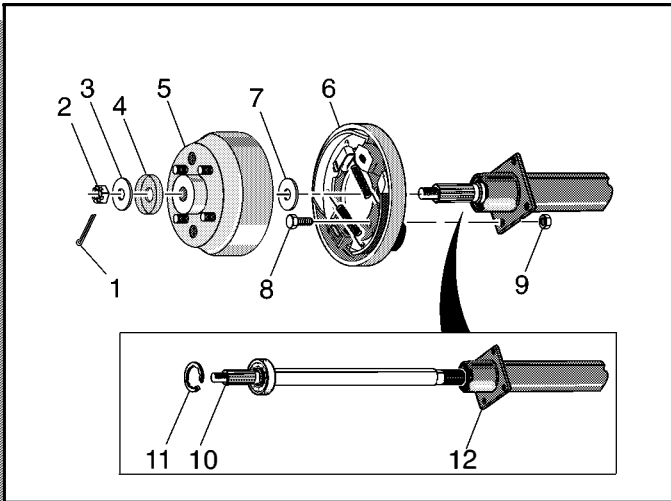

Fig. A-10 Axle Shaft Removal
10. Remove the cotter pin (1), axle nut (2) using a 1 1/8" socket, washer (3), and cup washer (if present) (4) from the driver side axle shaft (Ref Fig. A-10 on page A-5).
11. Pull the brake drum (5) from the brake assembly (6), and remove the washer (7) (Ref Fig. A-10 on page A-5).
12. Using a 1/2" socket, remove the four (4) bolts (item 8) and nuts (9), and remove the brake assembly from the driver side axle tube (Ref Fig. A-10 on page A-5).
13. Remove the driver side axle shaft (10) (Ref Fig. A-10 on page A-5).
- A. Using snap ring pliers, remove the bearing retaining ring (11) from the end of the axle tube (12) (Ref Fig. A-10 on page A-5).